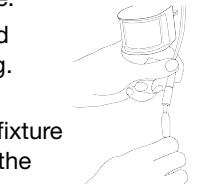

Fig. 5
4. Carefully route the wire from the solar panel to the fixture and plug it into the connector wire attached to the fixture housing. (For now, keep fixture in the OFF position) (Fig. 5).